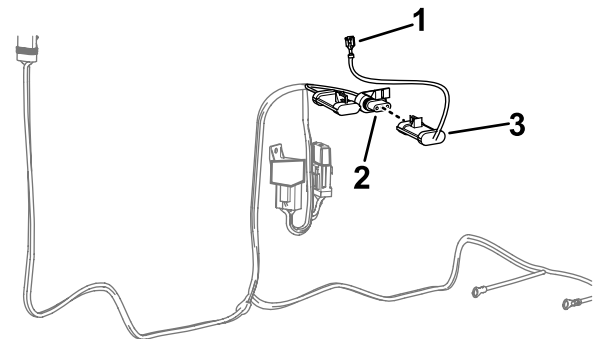

Figure 8
- Connect the 3-socket connector of the harness adapter into the 3-pin connector of the power harness (Figure 8).